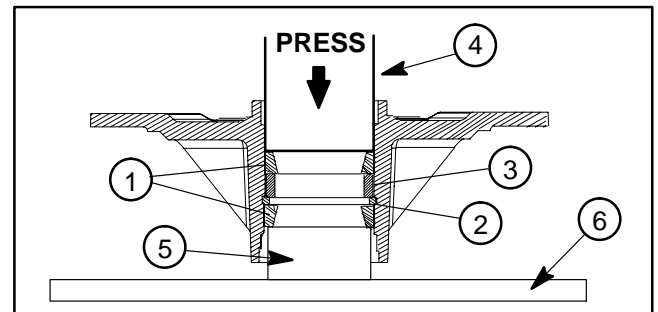

Figure 10
3. Using an arbor press, push the bearing cups into the top and bottom of spindle housing. The top bearing cup must contact the spacer previously installed, and the bottom bearing cup must contact the snap ring. Make sure that the assembly is correct by supporting the first bearing cup and pressing the second against it (Fig 10).